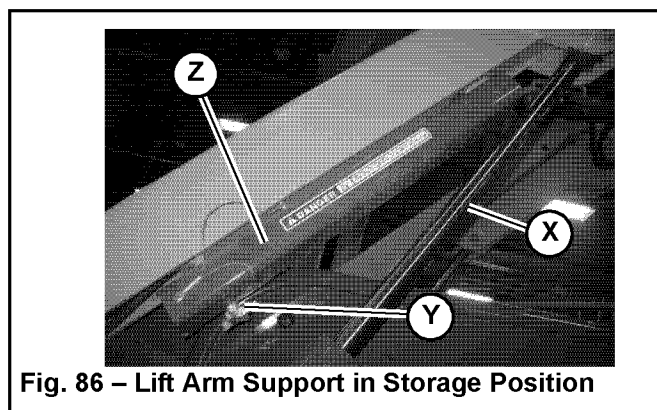
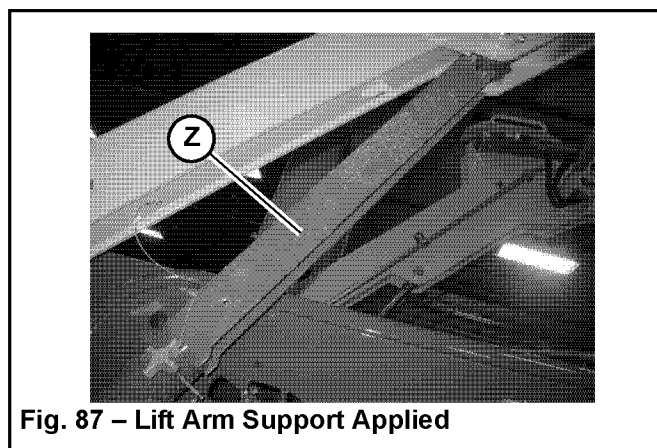
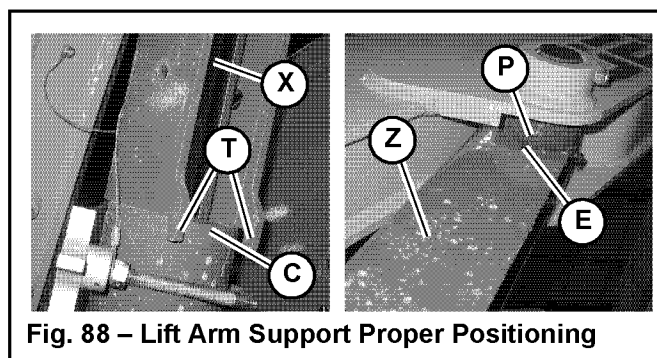

Fig. 86 – Lift Arm Support in Storage Position
Fig. 87 – Lift Arm Support Applied
Fig. 88 – Lift Arm Support Proper Positioning
- a. Remove retaining fastener (Y, Fig. 86) securing lift arm support (Z) in the storage position.
- b. Position the lift arm support (Z, Fig. 87) over the lift arm cylinder rod (X, Fig. 86 and Fig. 88).
- c. Position the lift arm support with the curved end (E, Fig. 88) of the support tight against the end of the cylinder rod (P), and tabs (T) on the support hooked over cylinder tube head (C) as shown.
9. Start the machine and lower the lift arm against lift arm support (Z). Verify that lift arm support (Z) is properly positioned as shown in Fig. 88.